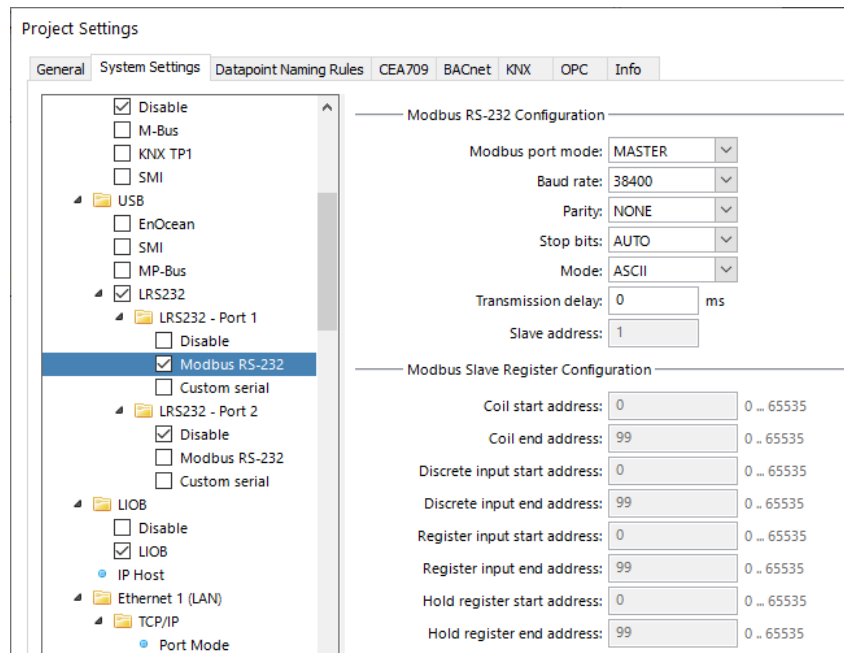

Figure 147: Project settings for Modbus on LRS232-802.
- When using Modbus ASCII on an RS-232 line, check the LRS232-802 on USB and configure the Modbus settings as shown in Figure 147.